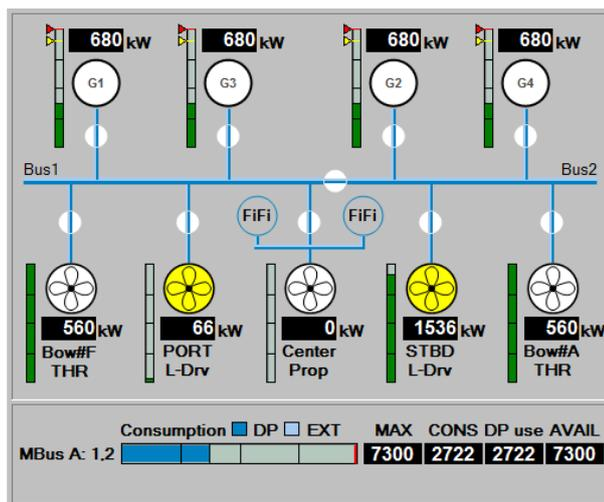

Figure 6.47: An example of power limited thrusters in the Power mimic diagram
- power limited thruster symbols become yellow on the Power mimic diagram (Figure 6.47)